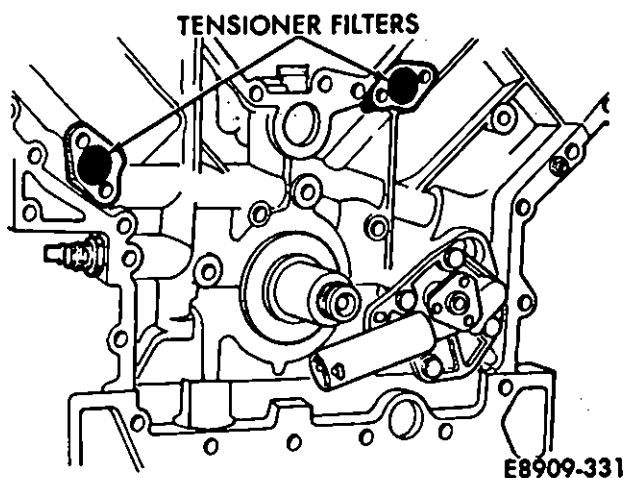

Fig. 9—Tensioner Filters
(14) Remove tensioner filters (Fig. 9).
- (6) Install the cleaned tension filters (Fig. 9).